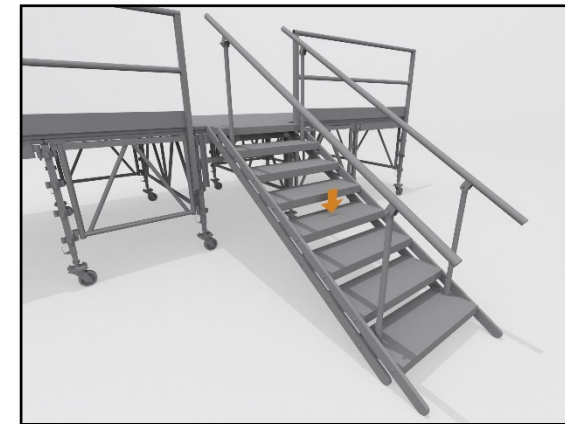

Fig. 55 – Step Point Load Location
10.6.1 The ramp has been designed for a maximum vertical imposed load of 5kN/m² and a point load of 3.6kN on the middle of the step. *Fig. 55 – Step Point Load Location*